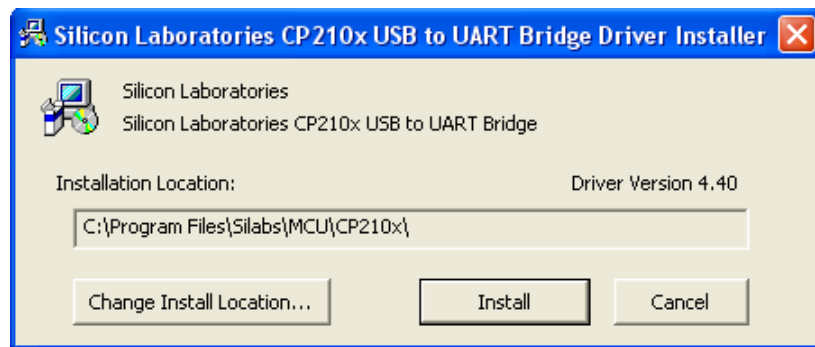

Figure 1-4
11. If a new driver is necessary, the following window (figure 1-4) will appear; click on "Install".